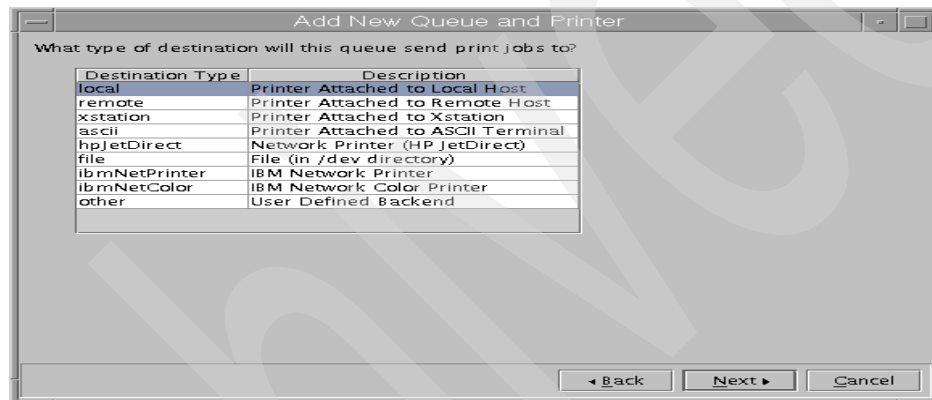

Figure 25. Selecting the type of the destination
4. The panel shown in Figure 25 is used to decide the destination type of the printer. In this example, select **Local** and click the **Next** button.